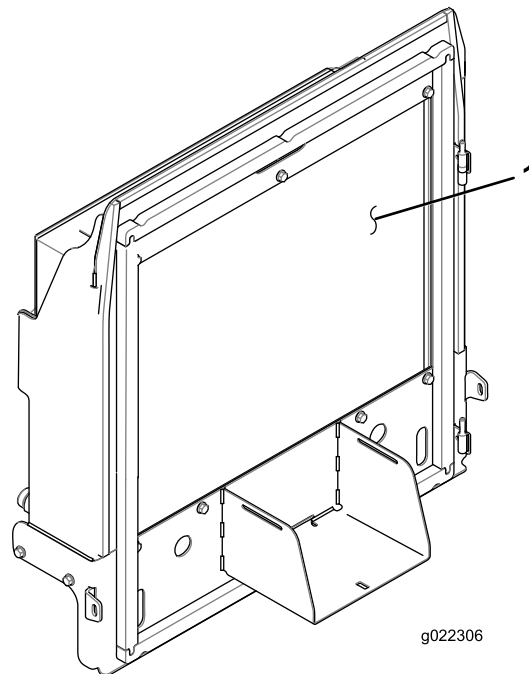

Figure 83
4. Thoroughly clean both sides of the radiator and oil cooler (Figure 83) with compressed air.